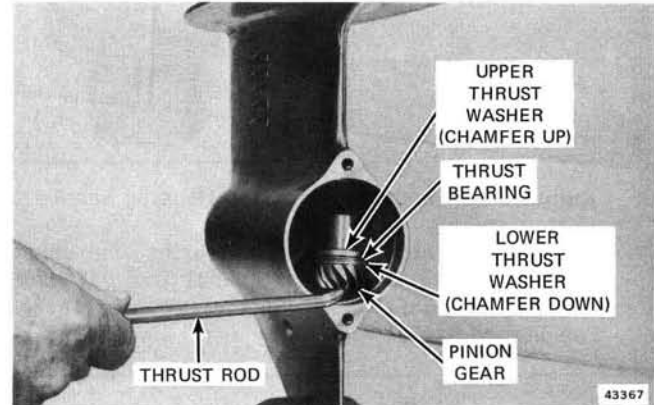

Figure 6-49. Installing Pinion Gear, Thrust Washers and Bearing
7. Position lower thrust washer, chamfer side down, on pinion gear. Place pinion thrust bearing and upper thrust washer on gear O.D. chamfer side up. (Upper thrust washer is thicker than lower washer.) Using a suitable tool such as the thrust rod assembly, guide pinion gear, bearing, and thrust washers into the driveshaft lower bearing. See Figure 6-49.